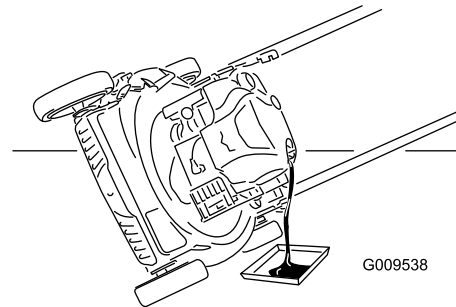

Figure 28
4. Tip the machine onto its side with the air filter up to drain the used oil out through the oil-fill tube (Figure 28).